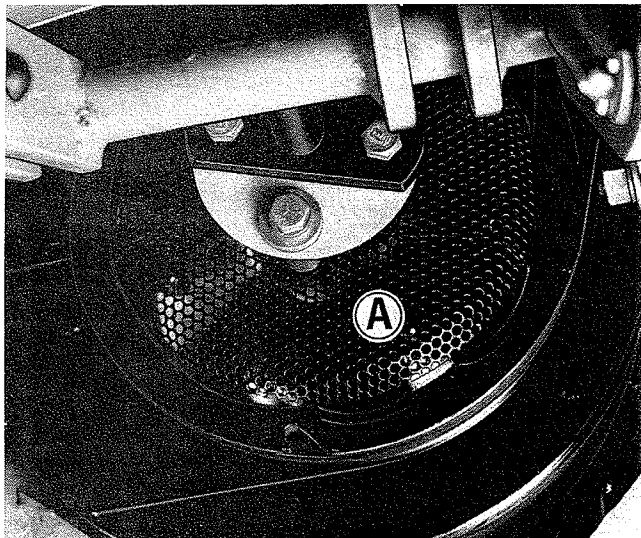

Figure 18. Engine blower screen located at rear of engine as seen from beneath tractor.
CLEAN ENGINE FINS AND SCREEN: See figure 18. The blower screen (A) must be kept relatively free of chaff, grass, etc., which would restrict the flow of cooling air to the engine. Material which collects can normally be removed with a brush after the engine is shut off. The screen may need to be cleaned more often when mowing dry grass.